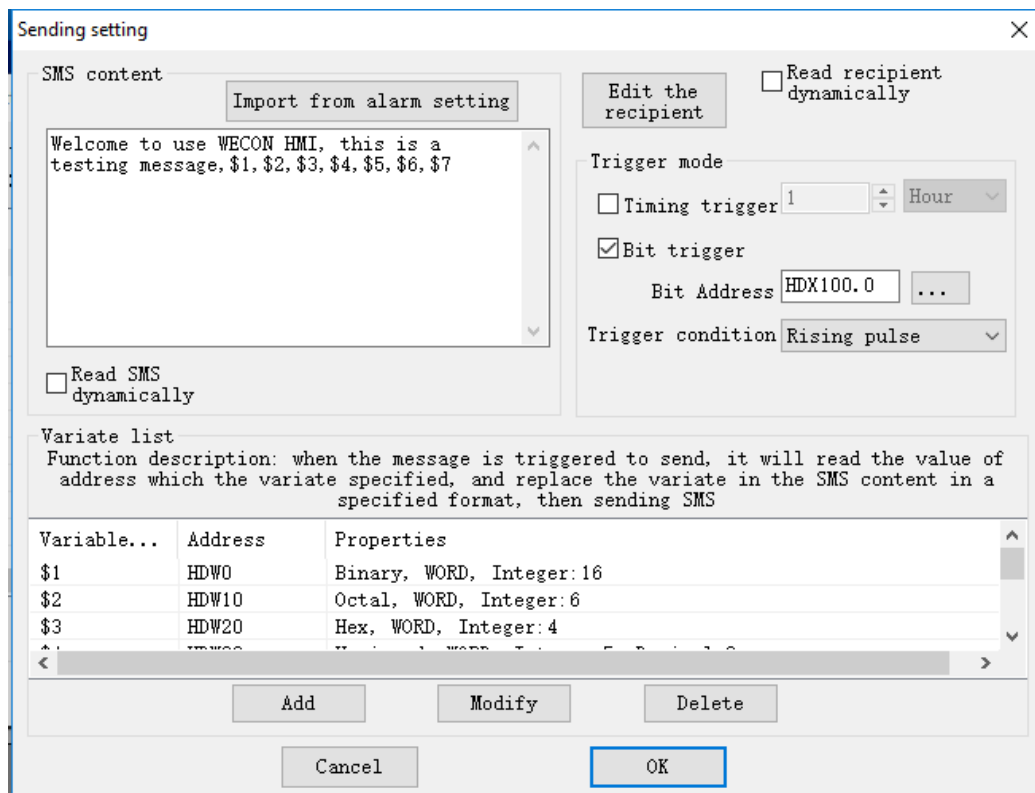

Figure 3
- Click [Add] to open the sending setting windows as Figure 3 shows;
- **SMS content:** user could input the text directly or read the content from alarm text, also it could support read content from some registers, like the FIG 3 shows, use “\$1”, “\$2”...
- **Edit the recipient:** edit the receiver, as figure 4 shows, also use could import receiver from csv files. Also it could support “read recipient dynamically”, please use a text input/display object for phone number input, and the length for object is 8. In this mode, the SMS module will send to the default receiver and dynamical receiver. As FIG 3 shows.